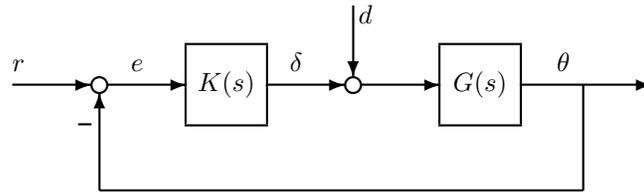

Figure 1: Feedback Loop
- (b) Consider the feedback system shown below in Figure 1. d denotes a disturbance acting on the rocket. Assume the control law is defined by $K(s) = \frac{s-0.3}{s+4}$. Notice that this control law perfectly cancels the unstable pole of the plant. Derive the closed-loop transfer function from r to θ . Remove any pole/zero cancellations. Is this transfer function stable?
Consider the feedback system shown in Figure 1 where r is the desired arm angle and u is the input voltage to the drive motor. The dynamics of the control law are described by the following transfer function: